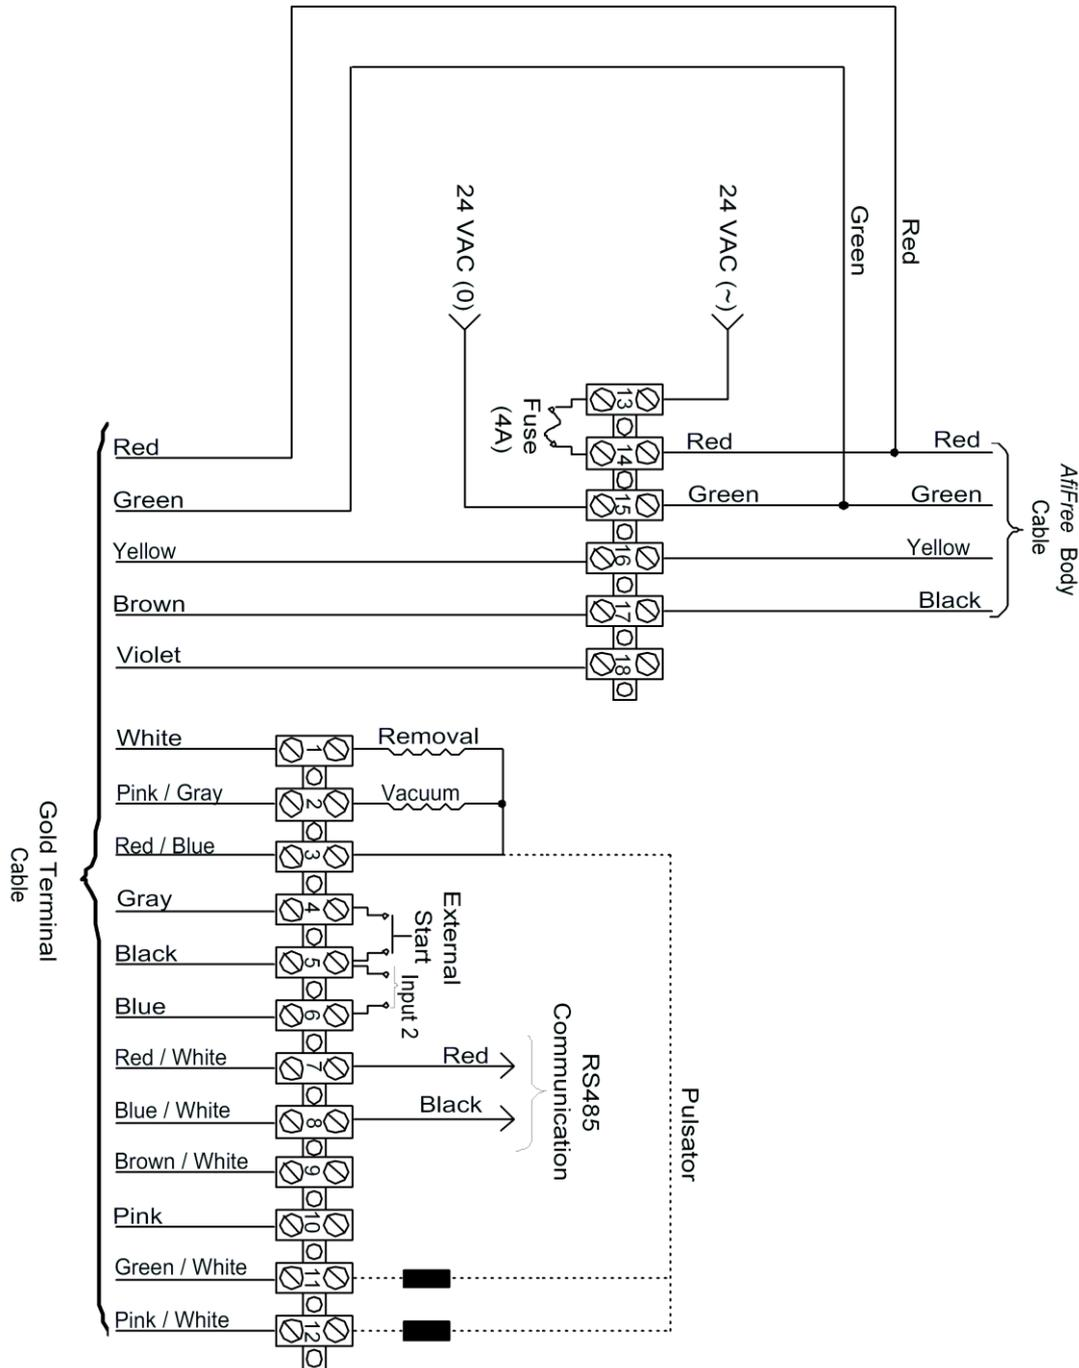

Figure 17: *AfiFree155i* Wiring
3. Wire the Terminal 155i cable to the connection box according to Figure 17 (page 38).
2. Wire the power cable to the connection boxes according to Figure 17.
Wire the Cluster Removal Solenoid and the Vacuum Shut-off Sweep Solenoid to the connection box according to Figure 17 (page 38).